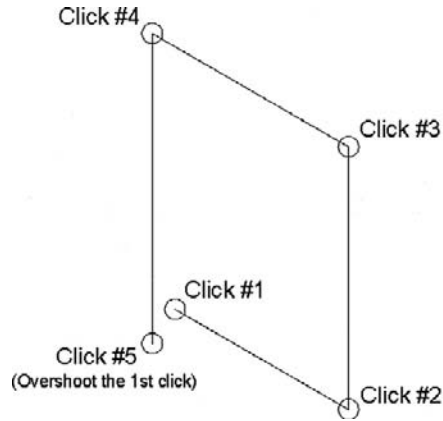

FIGURE 20.4
- Step 6.** Very important: Do not try to connect the final line to the first line; you will never get it exactly right. Instead overshoot and click after passing it by, as shown in Figure 20.4.